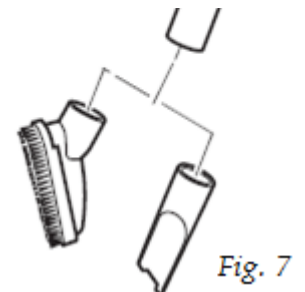

Fig. 7
3. Attach the required nozzle to the bottom end of telescopic tube (Fig. 7) or if necessary directly to the handle.